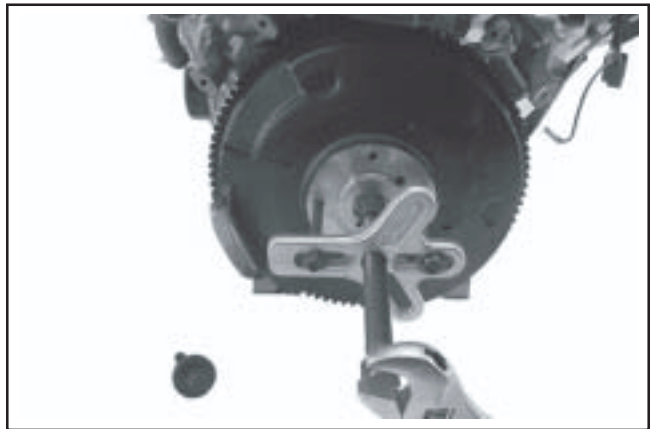

Figure 9-39. Removing Flywheel with Puller.
2. Use a puller to remove the flywheel from the crankshaft. See Figure 9-39.